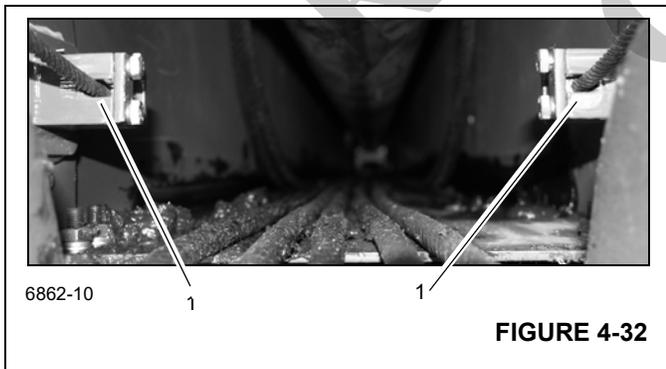

FIGURE 4-32
12. Remove the retaining plate securing the two fly retract cables (1), (Figure 4-32) to the rear of the fly assembly.